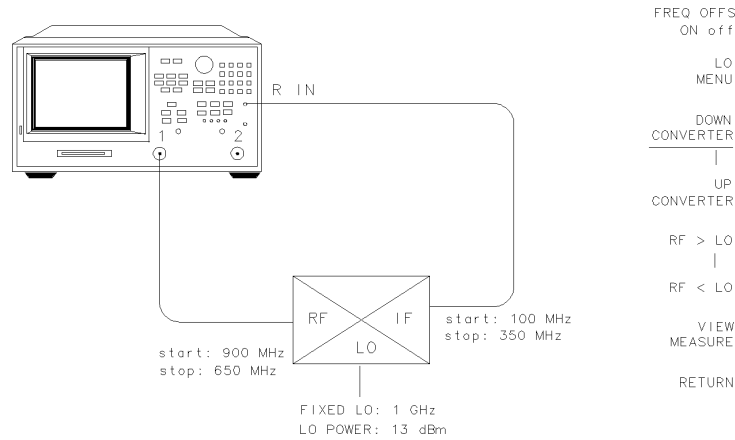
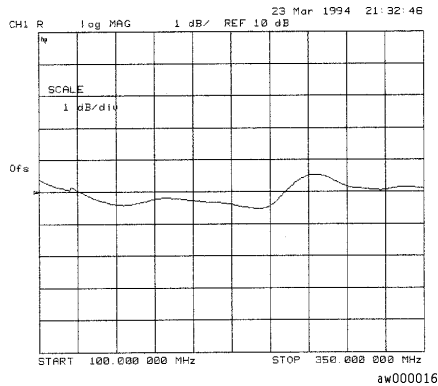

Figure 8-6. Measurement Setup from Display
Figure 8-7. Conversion Loss Example Measurement
In this high-side LO, down conversion configuration, the analyzer's source is actually sweeping backwards, as shown in Figure 8-7. The measurements setup diagram is shown in Figure 8-6.
- 12** To measure the conversion loss as shown in **Figure 8-7**, press:
In this measurement, you set the input power and measured the output power. **Figure 8-7** shows the absolute loss through the mixer versus mixer output frequency.